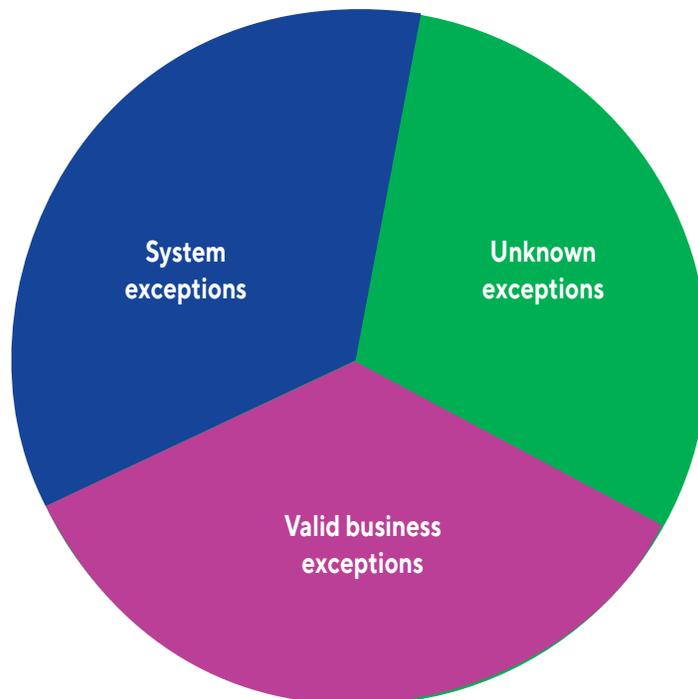

Figure 2
- **First, set up a framework to capture exceptions and log errors.** As bots are built to perform rule-based tasks in the automation workflow, the framework should be designed to capture any exceptions expected in a particular business process automation flow (See Figure 2).